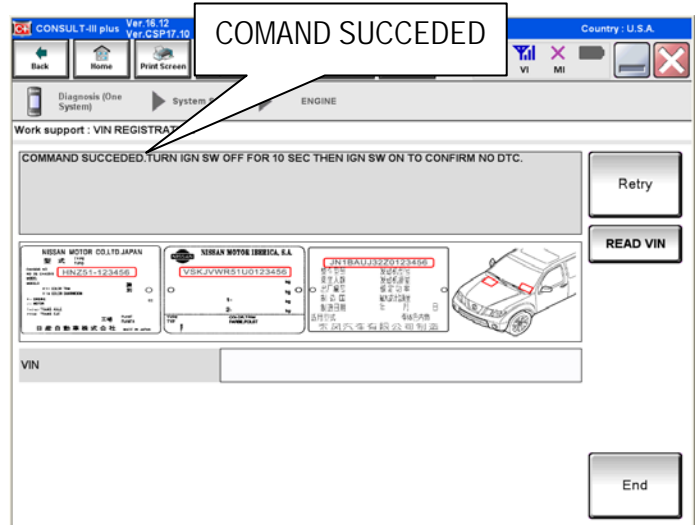

Figure 8
- c. Once completed (COMAND SUCCEEDED; See Figure 8) turn the ignition off for 10 seconds, then back on and check for any DTCs.